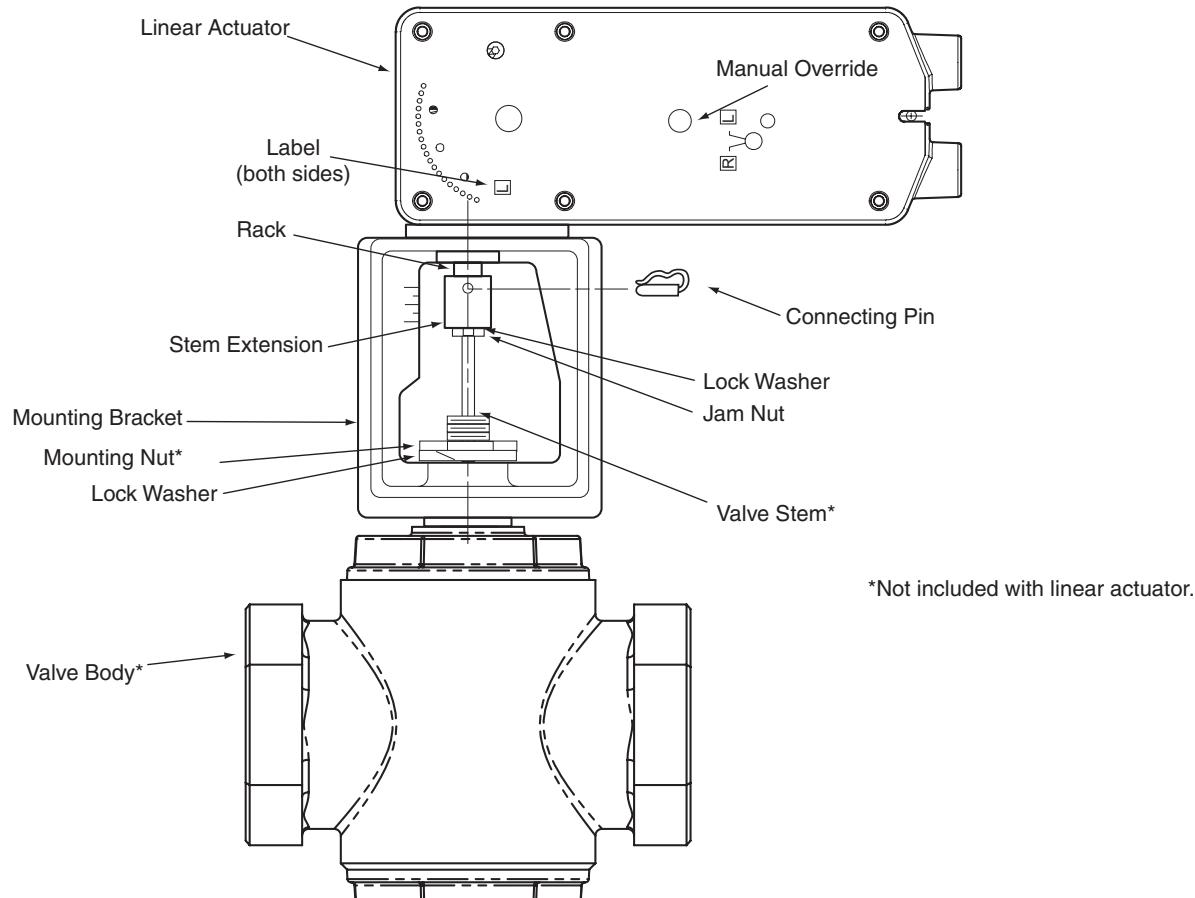

Figure 13 Typical Assembly and Installation.
1. Install the actuator onto the valve. Set up the assembly according to the numbered steps in Figure 13.